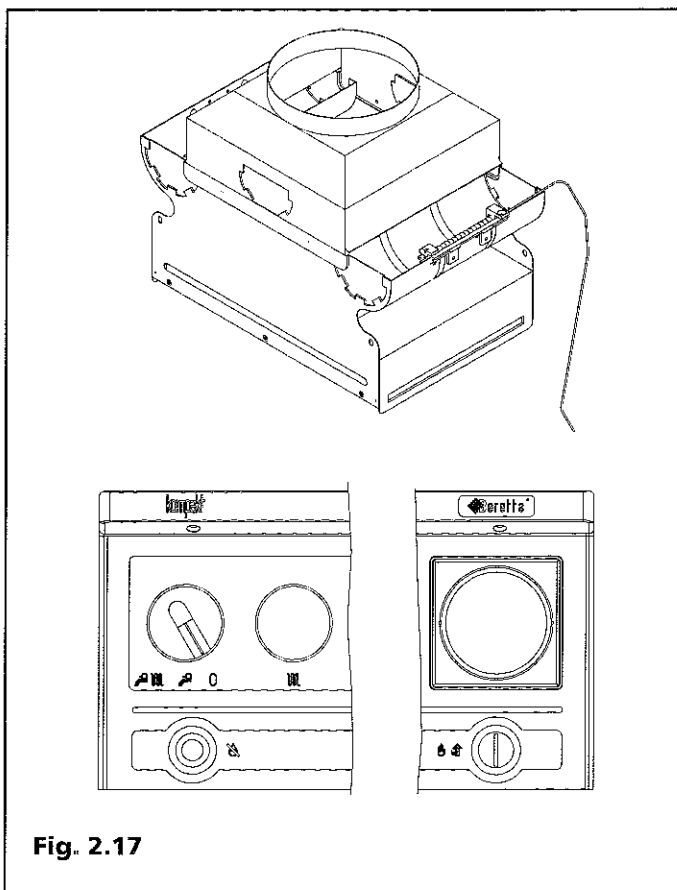

Fig. 2.17
2.12 Termostato fumi (Fig. 2.17)